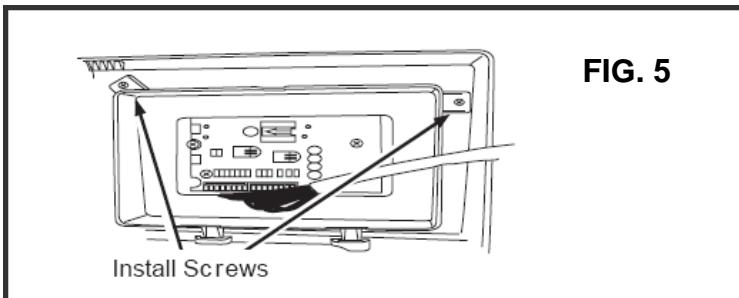

FIG. 5
5. Remove the two control panel screws from the front panel (FIG 5).